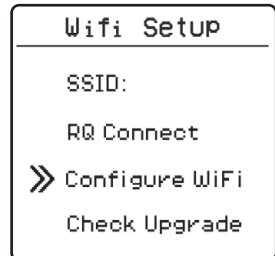

Fig. 15
3. Select the **Configure WiFi** menu item using the arrow buttons and confirm the selection by briefly pressing the Enter button (Fig. 15).